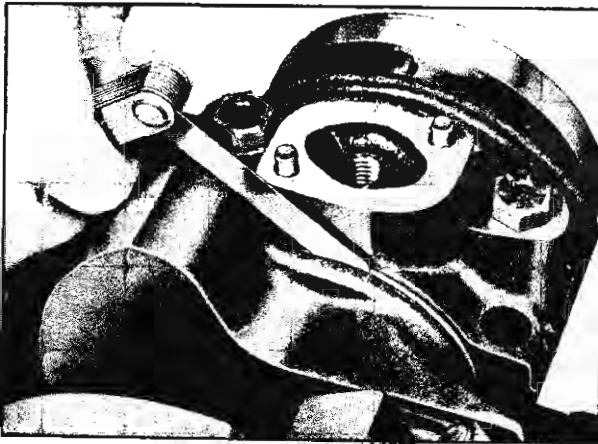

Fig. 101—Checking Crankshaft End Play
5. Check crankshaft end play by forcing the crankshaft to its extreme front position. Check at the front end of the rear main bearing with a feeler gauge (fig. 101). Clearance should be from .002" to .006" with a new bearing. If greater than a maximum .009" clearance, the rear main bearing must be replaced.
9. Check the end play by forcing the crankshaft to its extreme front position. Check at the front end of the rear main bearing with a feeler gauge (fig. 101). This clearance should be from .002" to .006".